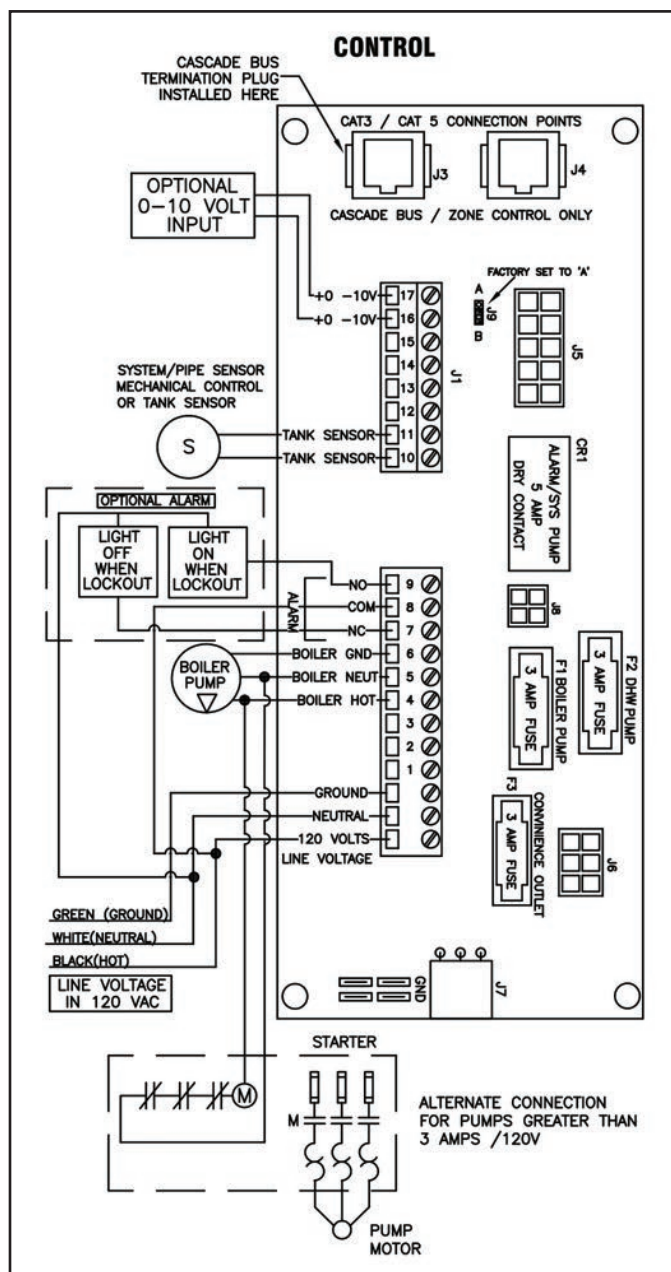

Figure 22 - VWH Control Wiring
NOTE: A termination plug is included in the CAT 3 / CAT 5 Bus Connection Point, labeled J3 in Figure 22. DO NOT REMOVE THIS
1. Connect the incoming power wiring to the line voltage terminal strip in the electrical junction box at terminals 120V, Neutral, Ground (shown in Figure 22).
3. Connect the boiler pump as shown in Figure 22 to the terminals marked 1 – (HOT), 2 – (NEUT), and 3 – (GND). The connections shown are suitable for a maximum continuous pump draw of 3 amps at 120 volts. If the pump requires more current or voltage than the 120 volts supplied, an external motor starter or contactor will be required.
The control includes a dry contact alarm output. This is an SPDT circuit, rated at 5 amps at 120 volts. This contact can be used to activate an alarm light or bell or notify a building management system if the boiler goes into a lockout condition. The circuit between the ALARM COM and NC terminals is closed during normal operation and the circuit between ALARM COM and NO is open during normal operation. The connections depicted in Figure 22 show two 120 volt lights connected to the alarm terminals. One light will be on when the boiler is in normal mode and the other light will be on when the boiler is in lockout mode.
Connect the tank sensor or mechanical controls to the TANK SENSOR terminals (10, 11) of the low voltage terminal strip as shown in Figure 22. The control will automatically determine which type of sensor is connected and operate accordingly.
The system/pipe sensor can be used to control the temperature of the storage tank when a tank sensor or mechanical control cannot be mounted. The system/pipe sensor would be wired into the terminals of the low voltage terminal strip as shown on Figure 22. It is important to note that when a system/pipe sensor is used, the circulating pump must be wired to operate continuously; otherwise the boiler will short cycle.
2. Connect a building management system or other auxiliary control signal to the terminals marked 16, 0-10 VOLT + and 17, 0-10 VOLT – in the electrical junction box (shown in Figure 22). Caution should be used to ensure that the 0-10 VOLT + connection does not become connected to ground.